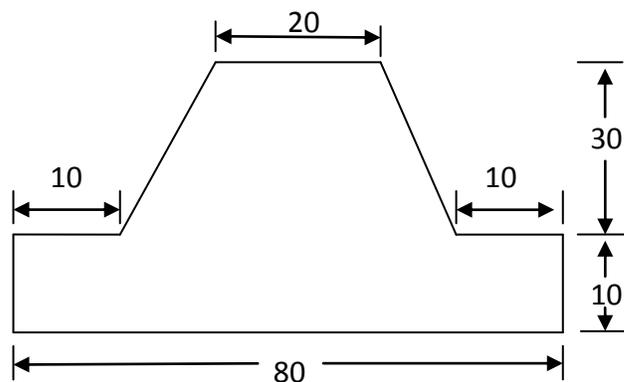

Fig. 1
- Q.9 A profile milling operation is to be performed to generate the outline of the part as shown in fig. 1. The part thickness is 15 mm, cutter diameter is 14 mm and cutter speed is 500rpm. Write down the complete APT programme consisting of:- 13